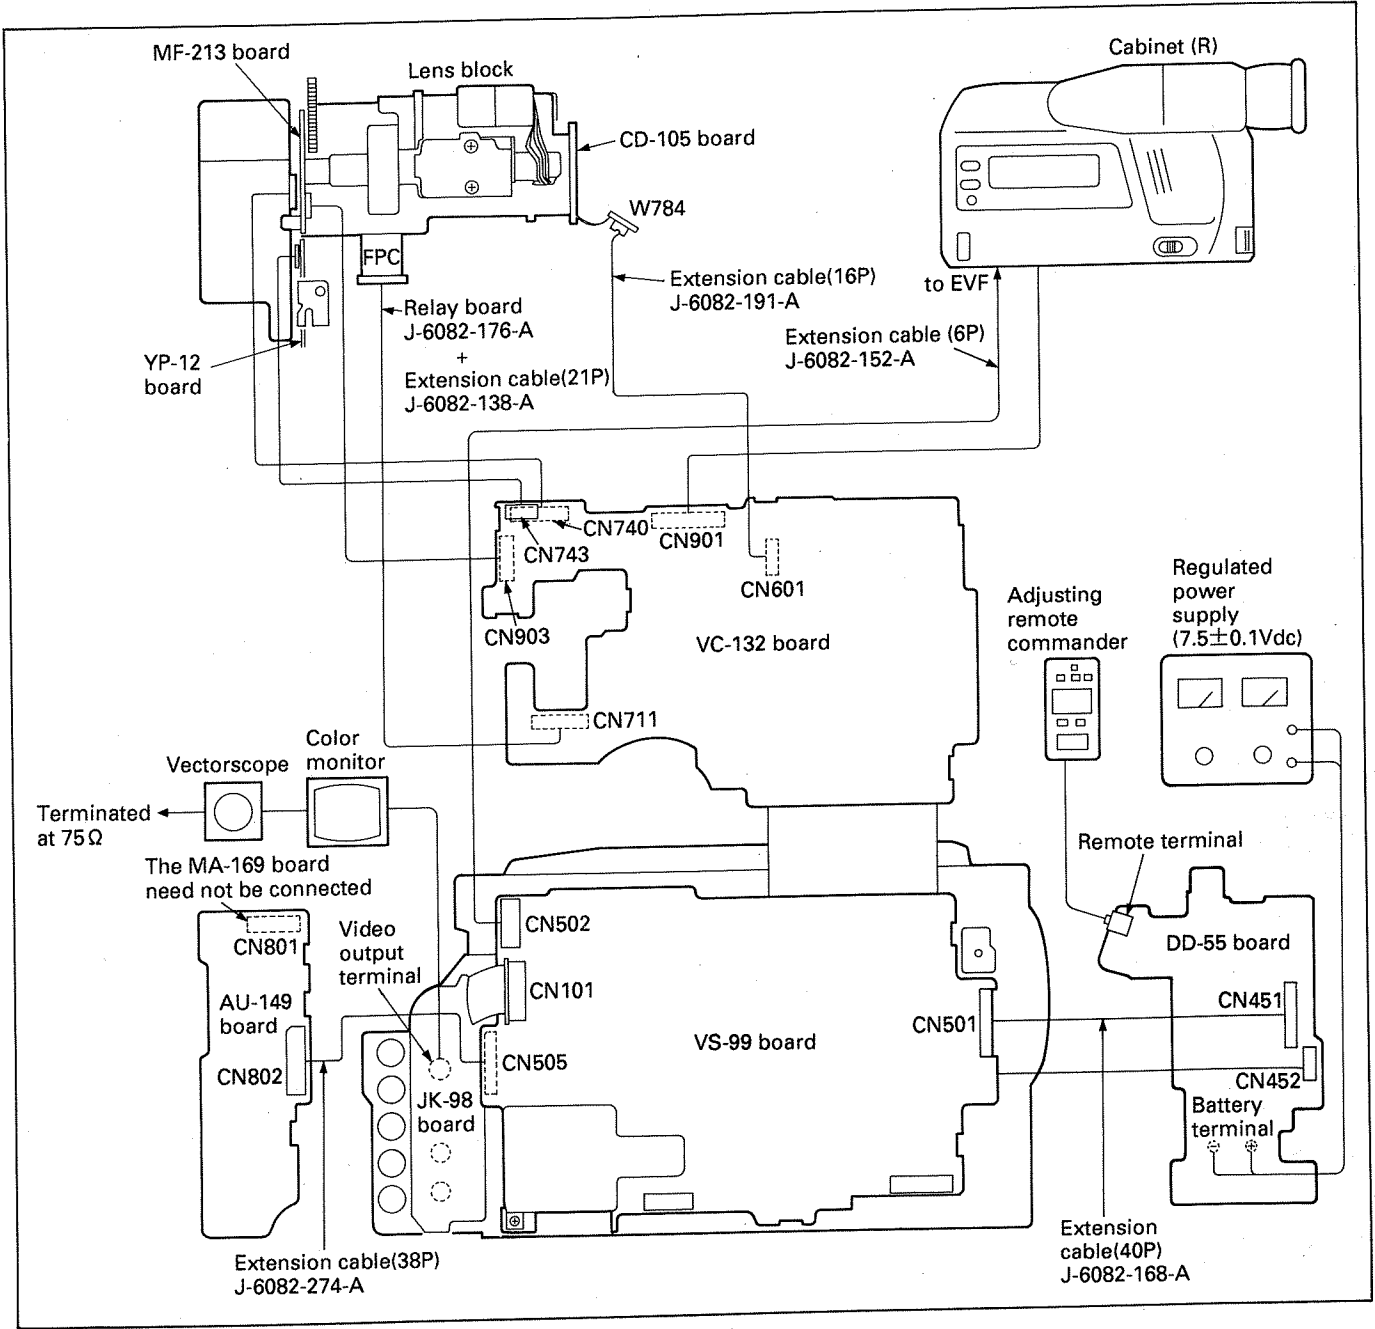

Fig. 7-3.
- 1) Connect the equipments for adjusting as shown in Fig.7-3